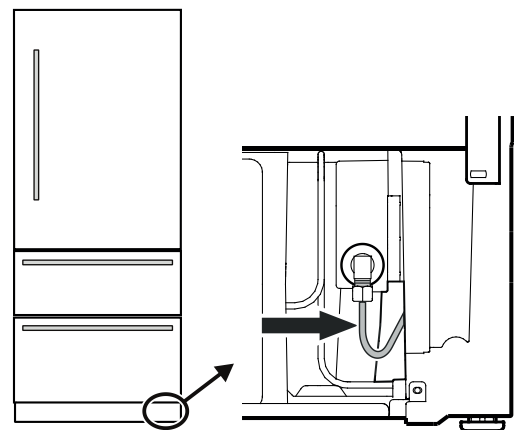

Figure 20
8. Screw the adapter onto the solenoid valve (**Figure 20**).